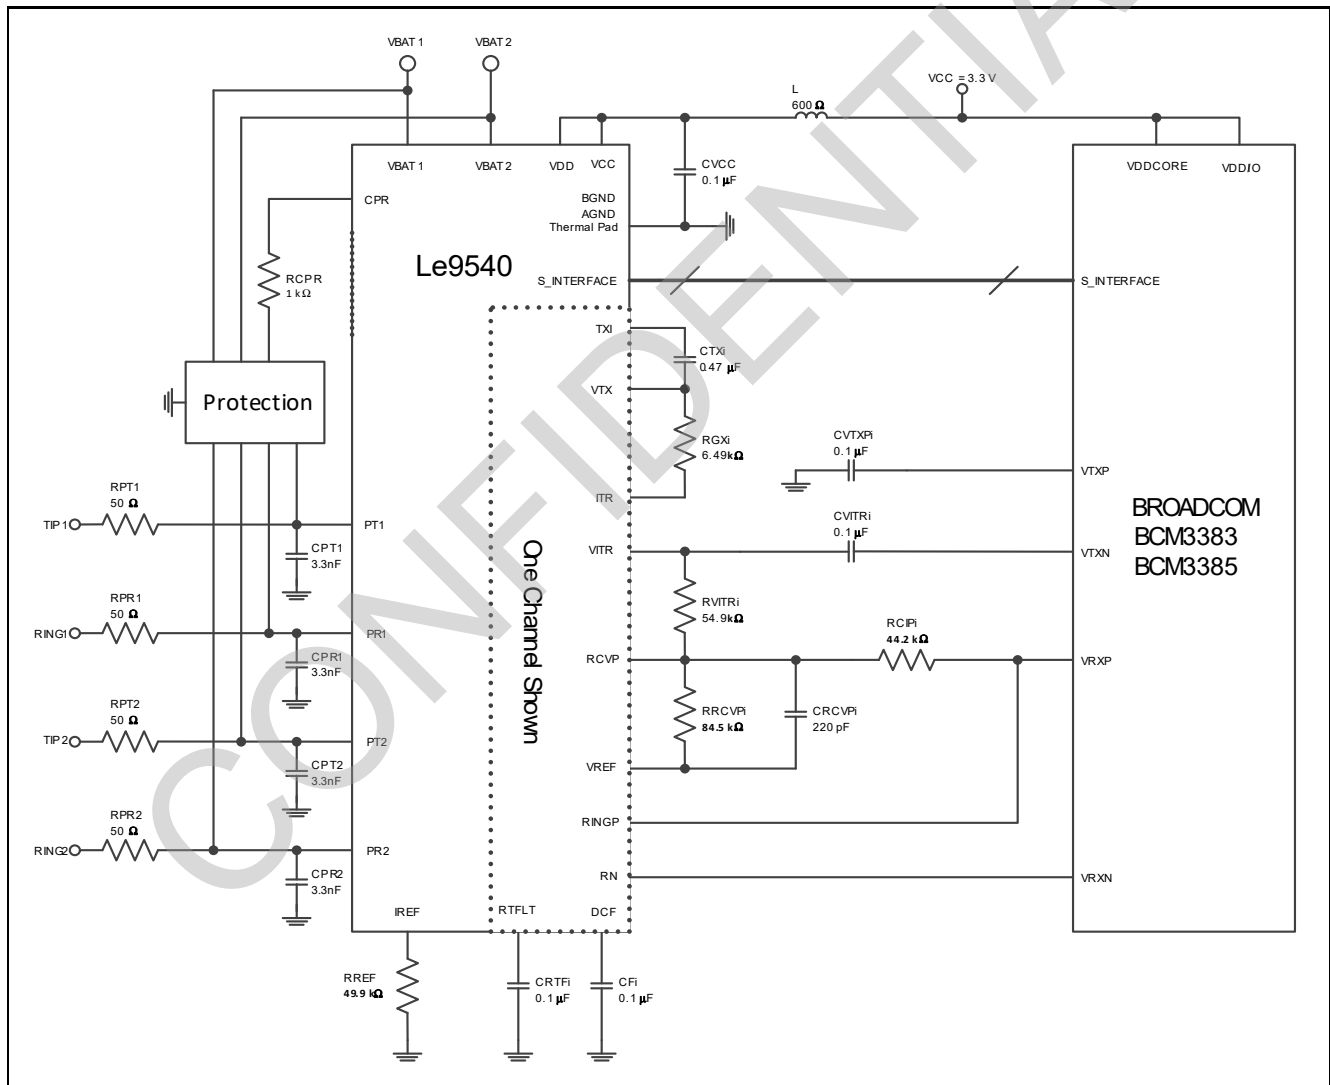

Figure 14 - Reference Schematic Interfacing Broadcom Codec
- Added RCPR in Figure 14 on page 28 and the table on page 29.